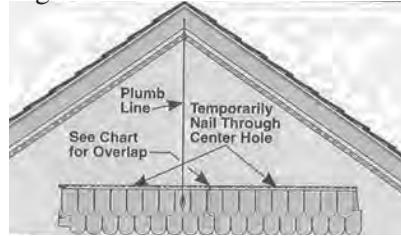

Fig.20
- For symmetrical appearance at peak, position and lock full panel in the first course with Round Cuts at center of the gable (see Figure 20).
- Use template and cut at mark. If needed for secure installation, move the mark an equal distance (X on Figure 20) from any Alignment Line.